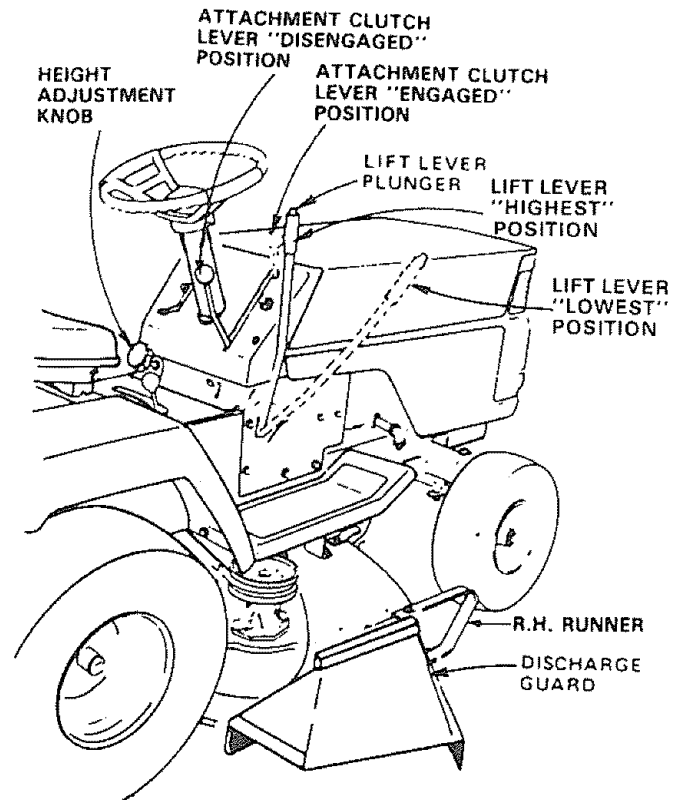

FIGURE 8
- Move the attachment lift lever to the high position and adjust height of cut to mid range. See Fig. 8.
- Move throttle lever to half throttle and slowly move attachment clutch lever to engaged position, Fig. 8.
- b. Use the runner on the R.H. side as a guide; the blade cuts approximately an inch outside the runner (Fig. 8).